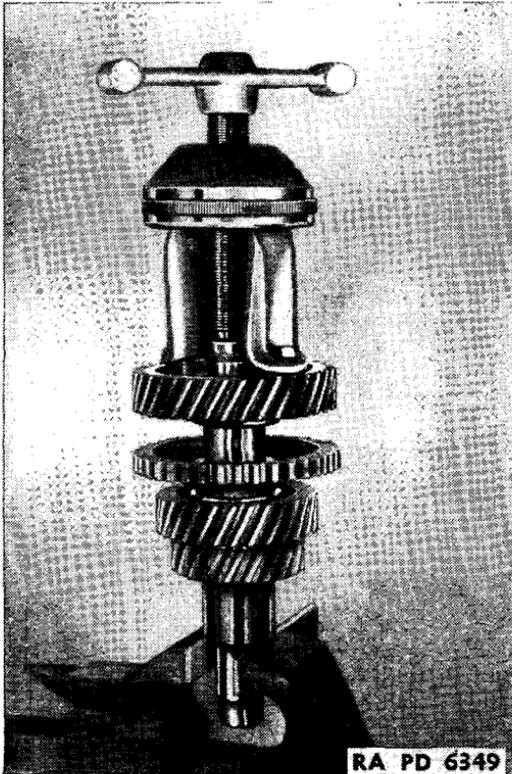

FIGURE 107.—Pulling transmission countershaft drive gear.
(2) Disassemble countershaft—bolt type universal puller, two  $\frac{1}{2}$ -20NF bolts, hammer, press, screw driver, pliers. Slide front bearing washer (A214822) off shaft (fig. 104). Remove countershaft drive gear snap ring (A214792). Set countershaft in vise with drive gear up. Mount universal puller on drive gear (B184259) using two bolts, and remove gear (fig. 107). If puller does not completely remove gear from shaft, pull gear off far enough to enable it to be set up in a press to complete removal. Remove Woodruff keys